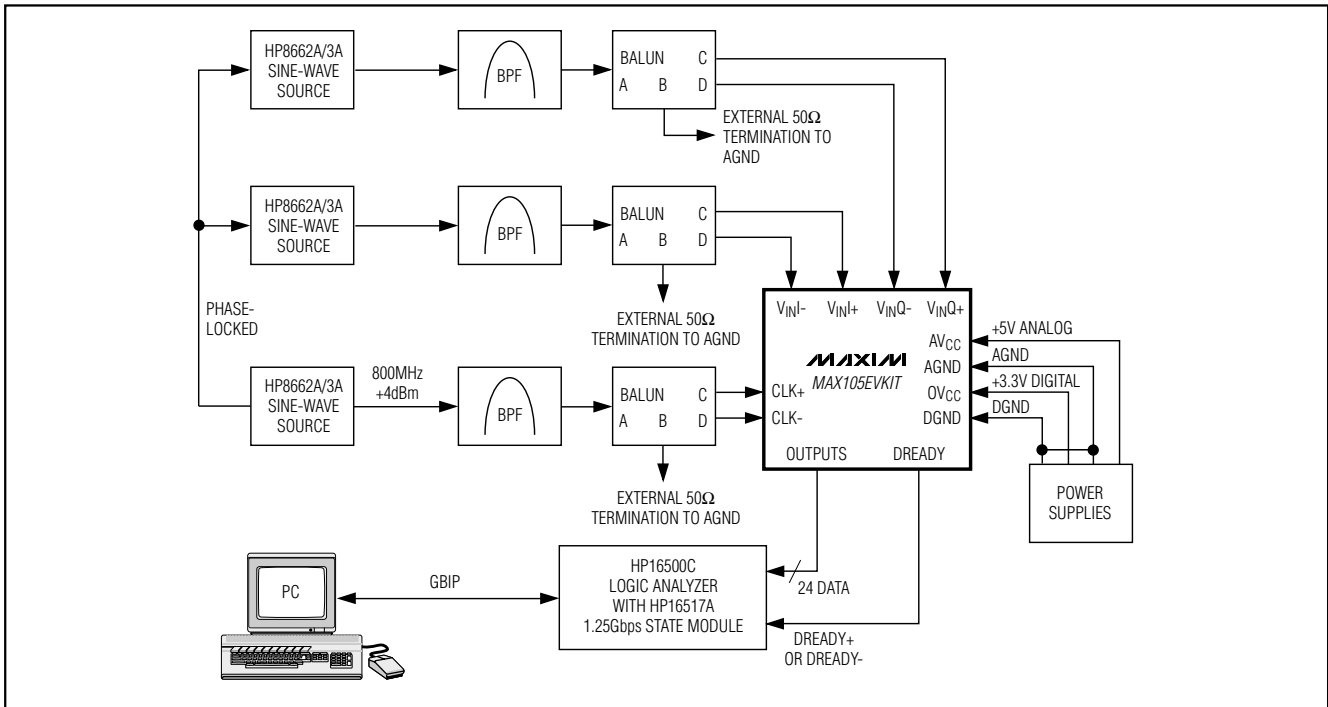
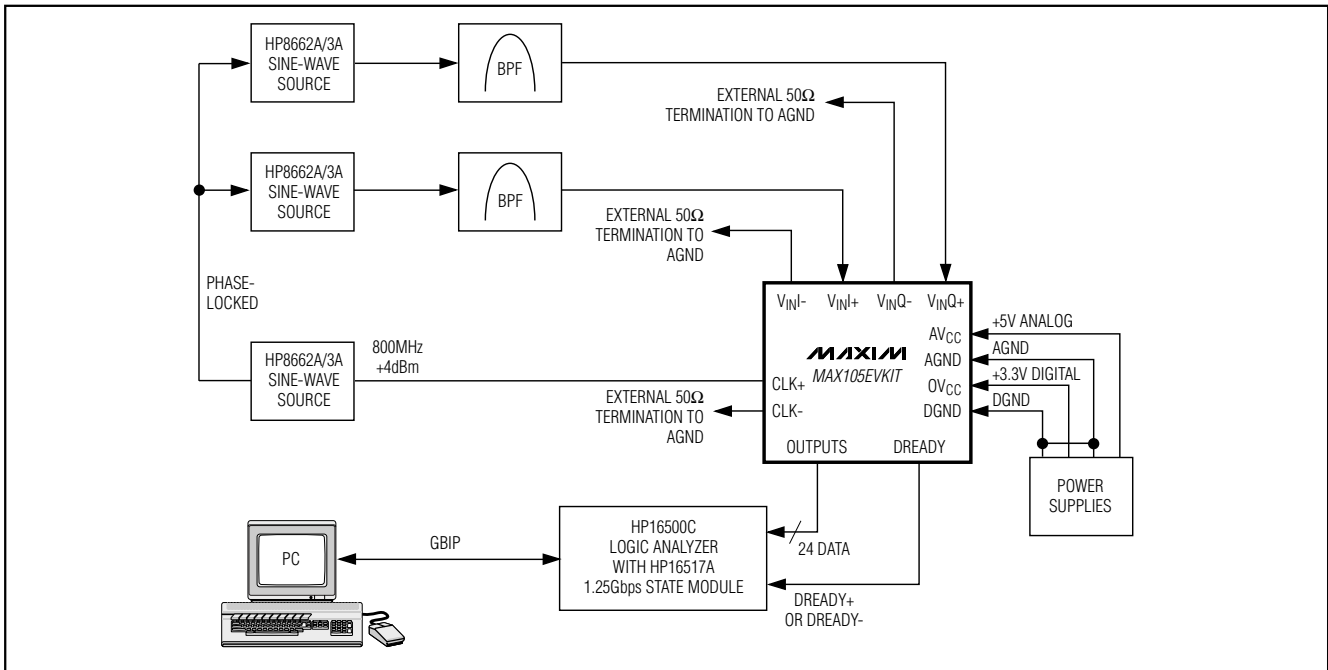

Figure 1. Typical Evaluation Setup with Differential Analog Inputs, Differential Clock Drive, and Single-Ended Data Capture
Figure 2. Typical Evaluation Setup with Single-Ended Analog Inputs, Single-Ended Clock Drive, and Single-Ended Data Capture
- 1) Connect a signal generator with low phase-jitter to the clock inputs CLK- and CLK+ through a balun (Figure 1). For a single-ended clock input (Figure 2), connect a 500mV (354mV_{RMS}, +4dBm) amplitude from the signal generator to the CLK+ input and terminate the unused CLK- input with a 50Ω termination resistor to AGND.
- 2) For differential operation, connect a ±380mV 270mV_{RMS} (approximately -0.5dB FS) sine-wave test signal to connector A of the balun. Terminate connector B of the balun with a 50Ω terminator. Attach connector C of the balun to the analog input VINI+ (VINQ+). Attach connector D of the balun to the analog input VINI- (Figure 1). For single-ended operation, apply the test signal to either VINI+ (VINQ+) or VINI- (VINQ-) and terminate the unused input with a 50Ω resistor to AGND (Figure 2). For best results, use a narrow bandpass filter designed for the frequency of interest to reduce the harmonic distortion of the signal generator.